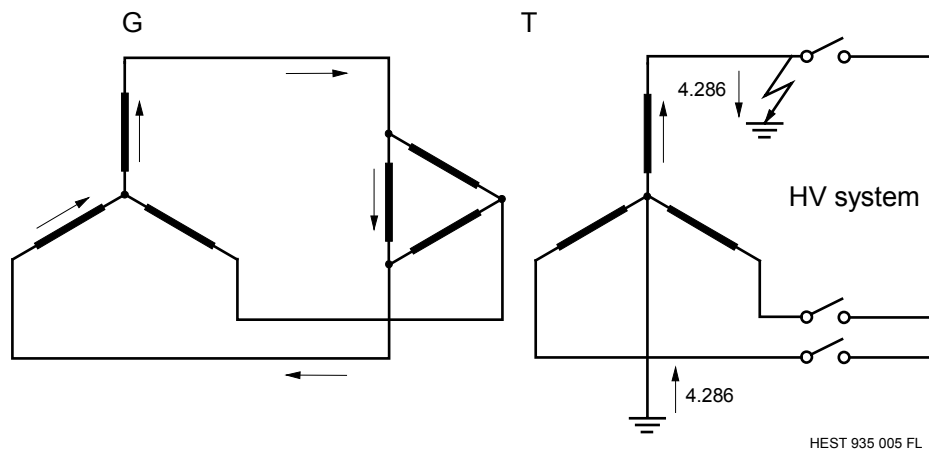

Fig. 4.1      E/F on the HV system supplied by the generator
- a) the generator and step-up transformer reactances when the HV circuit-breaker is open (see Fig. 4.1)